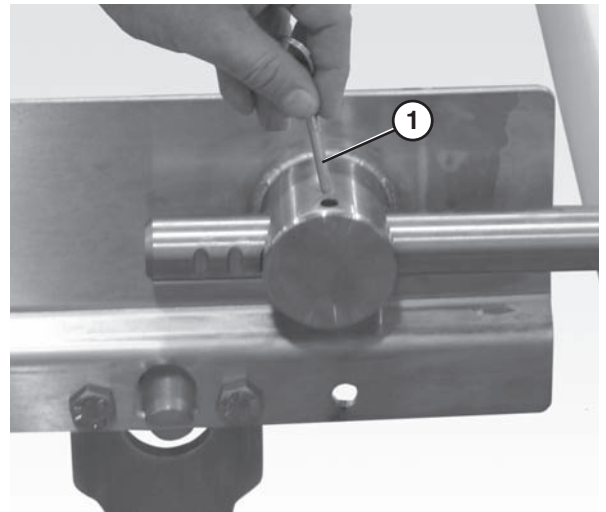

Figure 57
1. Remove the pull pins (**Figure 57, item 1**) on the tension end of the conveyor to release tension on the belt.